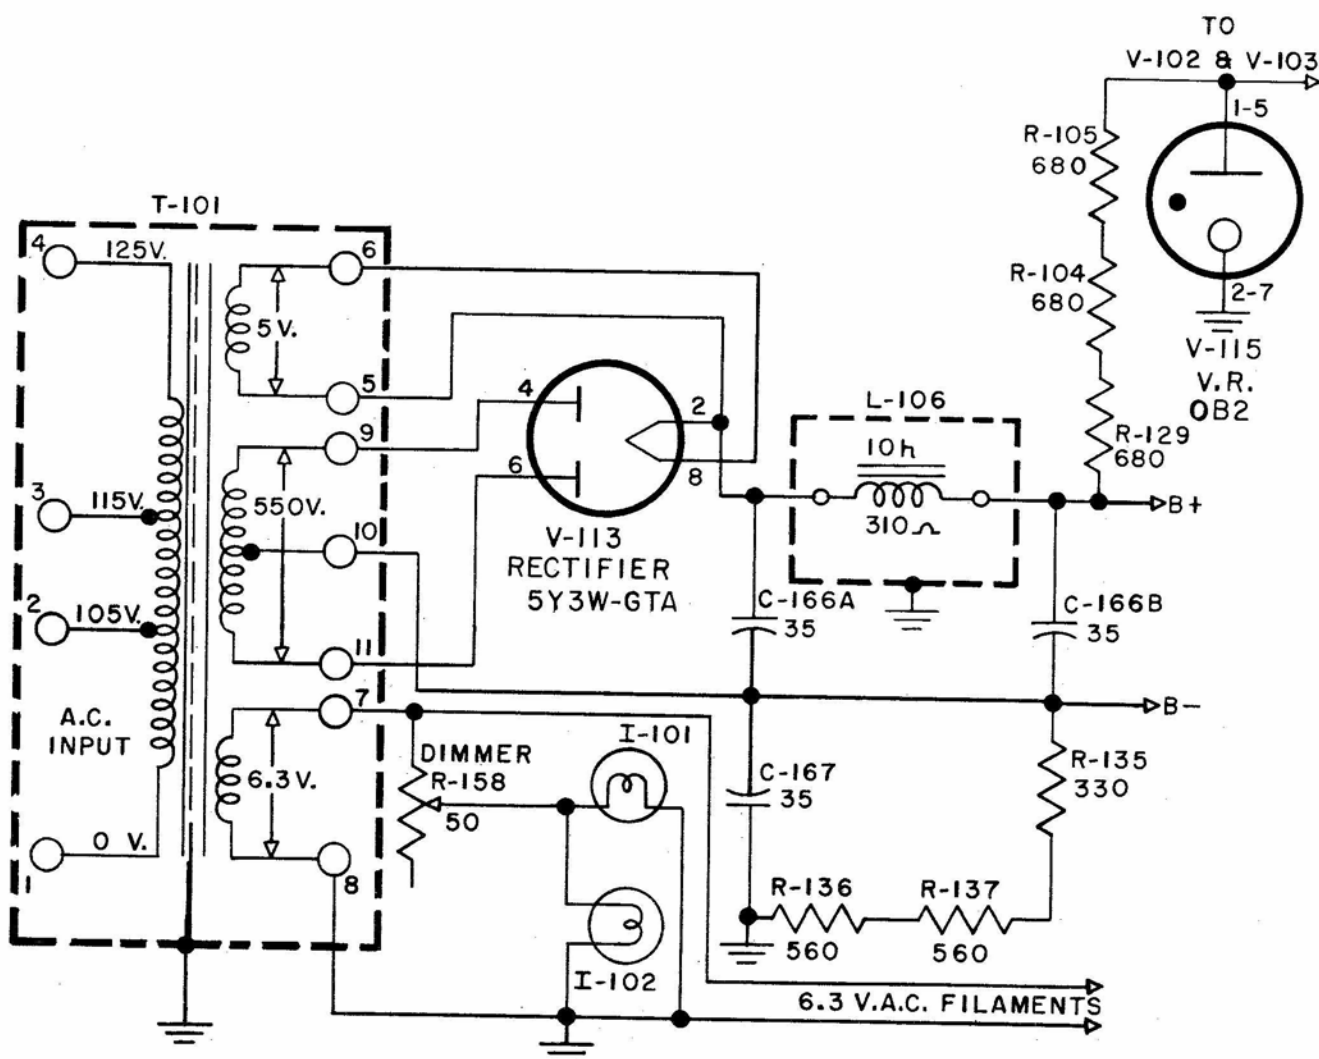

Figure 2-10. Power Supply, Simplified Schematic Diagram
1. POWER SUPPLY CIRCUIT DETAILS. (See Figure 2-10.)—The power supply used in the receiver has been designed to furnish filament voltage of 6.3 volts AC at 4 amperes, and B-plus voltages of 225 volts DC at 110 milliamperes and 108 volts DC, regulated, at 40 milliamperes when connected to the proper A.C. supply voltage. Power transformer T-101 has three taps on the primary permitting operation of the equipment from supply voltages of 105, 115, or 125 volts A.C. depending upon the position of the movable link which is placed in the correct position when the equipment is installed.
the high-voltage secondary. The B-minus lead is not connected directly to the chassis, the circuit from chassis to B-minus being completed through resistors R-135, R-136 and R-137 as shown in Figure 2-10. Current flowing through these resistors produces a voltage drop across them so that the chassis is maintained at a positive potential of approximately 70 volts with respect to B-minus.